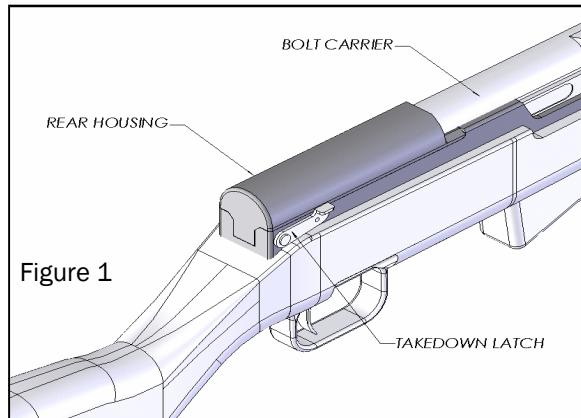

Figure 1
2. Release the Takedown Latch and remove the Rear Housing, Bolt Carrier Assembly and Recoil Spring Assembly. (See Figure 1)